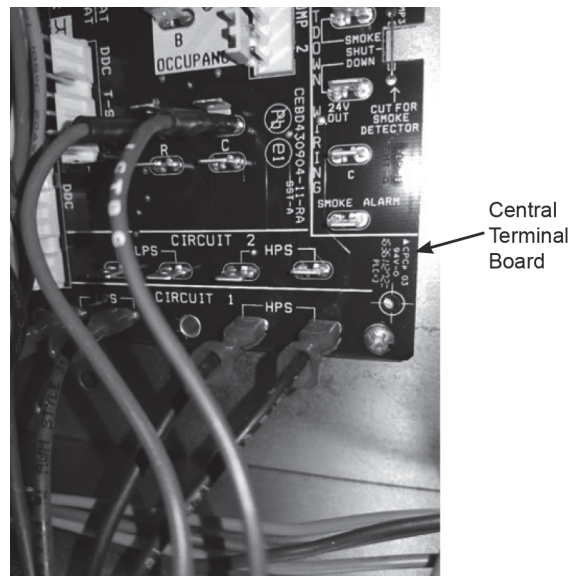

Fig. 11 — Connect Red and Brown Wires to Central Terminal Board
15. Connect the red and brown wires from the controller harness to the CTB. See Fig. 11 and 23. The red wire connects to “R” on the CTB, and the brown wire connects to “C”.